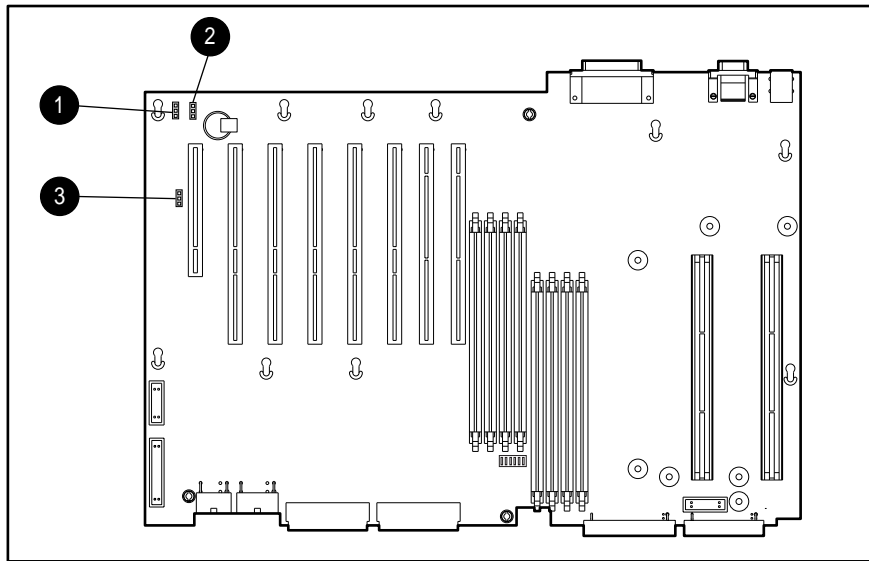

Figure 4-4. Jumper and header locations
Compaq ProLiant ML530 servers system board contains headers with jumpers for different purposes. The header locations are shown in Figure 4-4.
The battery power header ❶ on the system board is shown in Figure 4-4. The battery power jumper is connected to the battery power header and delivers battery power to CMOS and NVRAM. The default setting for the battery power jumper is across pins 1 and 2.
The external battery header ❷ on the system board is shown in Figure 4-4. The external battery header is the connector used to attach an external battery to the unit.
The remote power switch header ❸ on the system board is shown in Figure 4-4. The remote power switch header connects an optional Remote Insight Lights-Out Edition board to the system board of the Compaq ProLiant ML530 server.